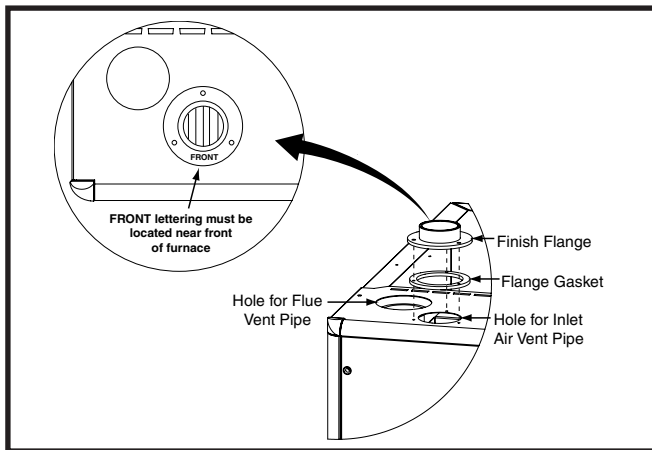
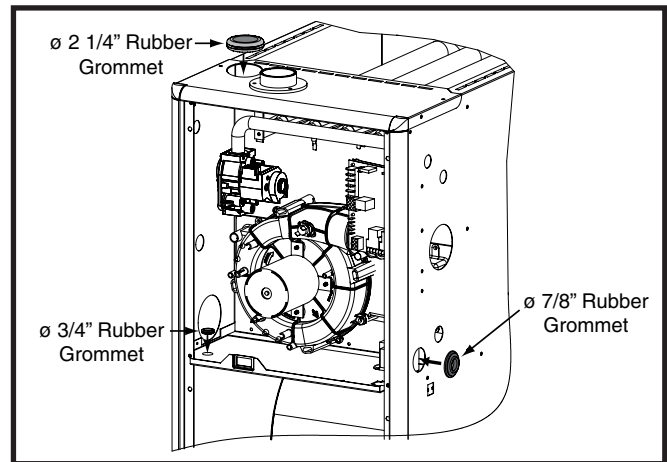
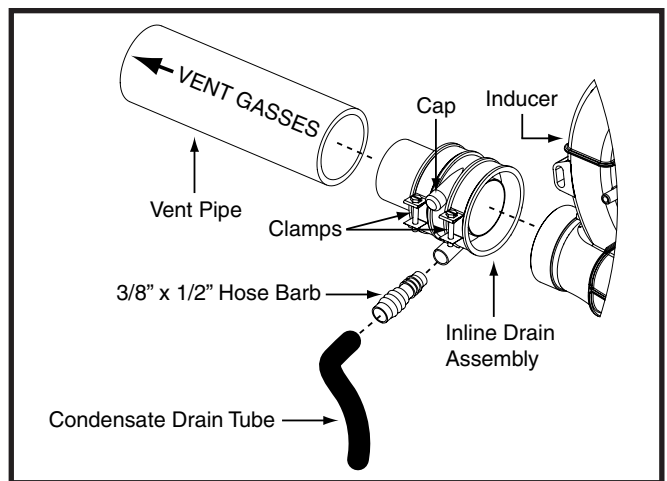
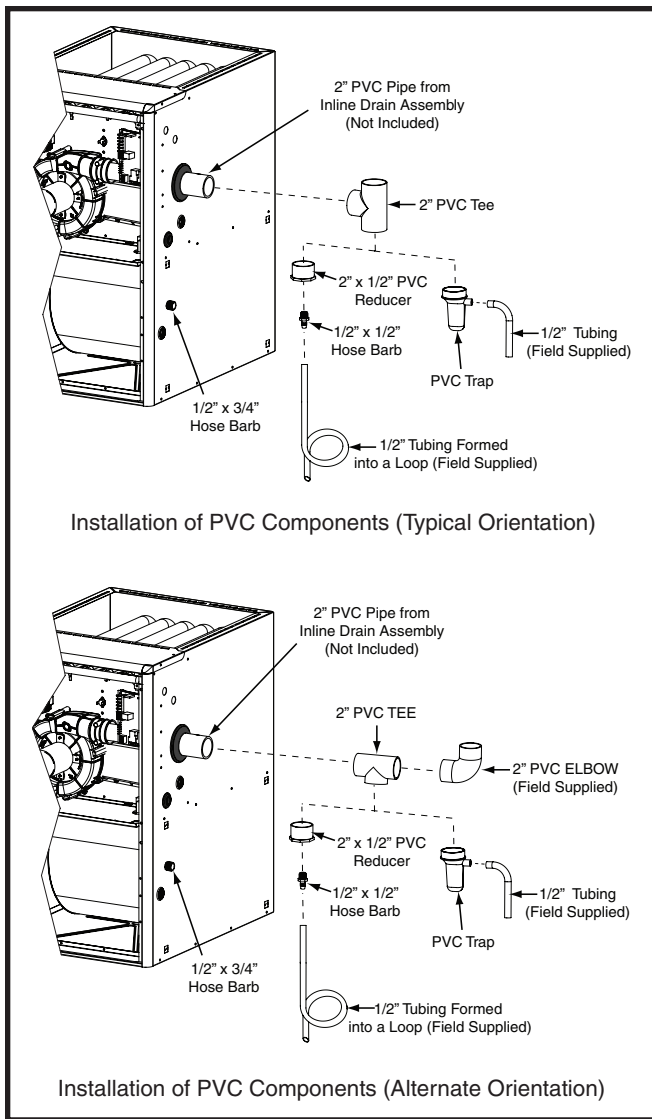

Figure 27. Finish Flanges
Figure 28. Rubber Grommets
Figure 29. Inline Drain Assembly
Figure 30. PVC Components
The components in Figure 27, Figure 28 (page 20), Figure 29, & Figure 30 are included in the extra parts bag that is supplied with the purchase of MG3(P,S) furnaces. Depending on your particular installation, some of these components are optional and may not be used. Please refer to the descriptions and accompanying figures when installing these items.
The finish flange must be installed to vent the combustion air pipe through the top of the furnace. See Figure 27.
The 2 1/4" rubber grommet is used to seal the opening between the furnace cabinet and the 2" PVC vent pipe. The rubber grommet should be installed in one of the 3" holes prior to running the vent pipe out of cabinet. No sealants are required. See Figure 28.
1. If applicable, install the inline drain assembly on the inducer assembly. See Figure 29.
- The PVC components shown in Figure 30 are not provided in the extra parts bag. However the PVC Trap (P/N 664659) can be purchased thru your local distributor.
The PVC tee with PVC Trap or the reducer and 1/2" X 1/2" hose barb are used when the inducer is rotated to vent out thru the left or right side of the furnace cabinet. See Figure 30 (page 21). **NOTE:** If supplied with your furnace, PVC trap (P/N 664659) may be used in place of the reducer and 1/2" X 1/2" hose barb
1. Install the PVC Tee vertically on the 2" vent pipe that is extending out the side of the cabinet. Permanently bond them together using appropriate primer and cement. Refer to the typical orientation shown in Figure 30.
1. Install the 2" PVC Tee horizontally on the 2" vent pipe that is extending out the side of the cabinet. Permanently bond them together using appropriate primer and cement. Refer to the alternate orientation shown in Figure 30.